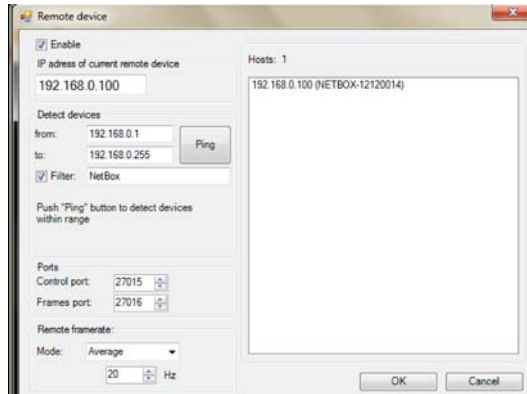

Fig. 18 Search for network devices in TIMConnect
- ➡ In the window which is appearing, see Fig. 18, you should set a hook on `Enable` and enter the IP address of thermoIMAGER TIM NetPC (192.168.0.100) at IP address of current remote device.
Under Remote framerate, see Fig. 18, you can enter the desired frame rate which should be transmitted via the network.